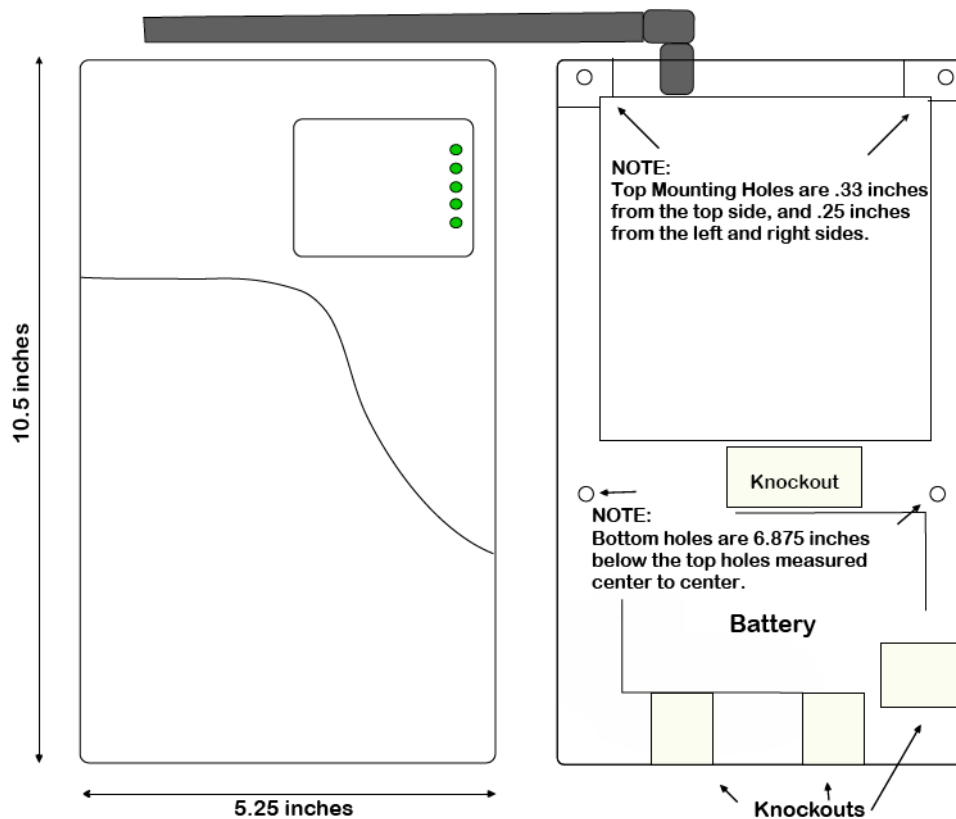

Figure 2: Inside & Outside Mounting Dimensions for the 2550
Position the bottom of the 2550 enclosure where it will be installed. Use four (4) #6 screws and mount the unit using the four holes in the enclosure's plastic bottom. The 2550 unit's dimensions are shown in Figure 2.